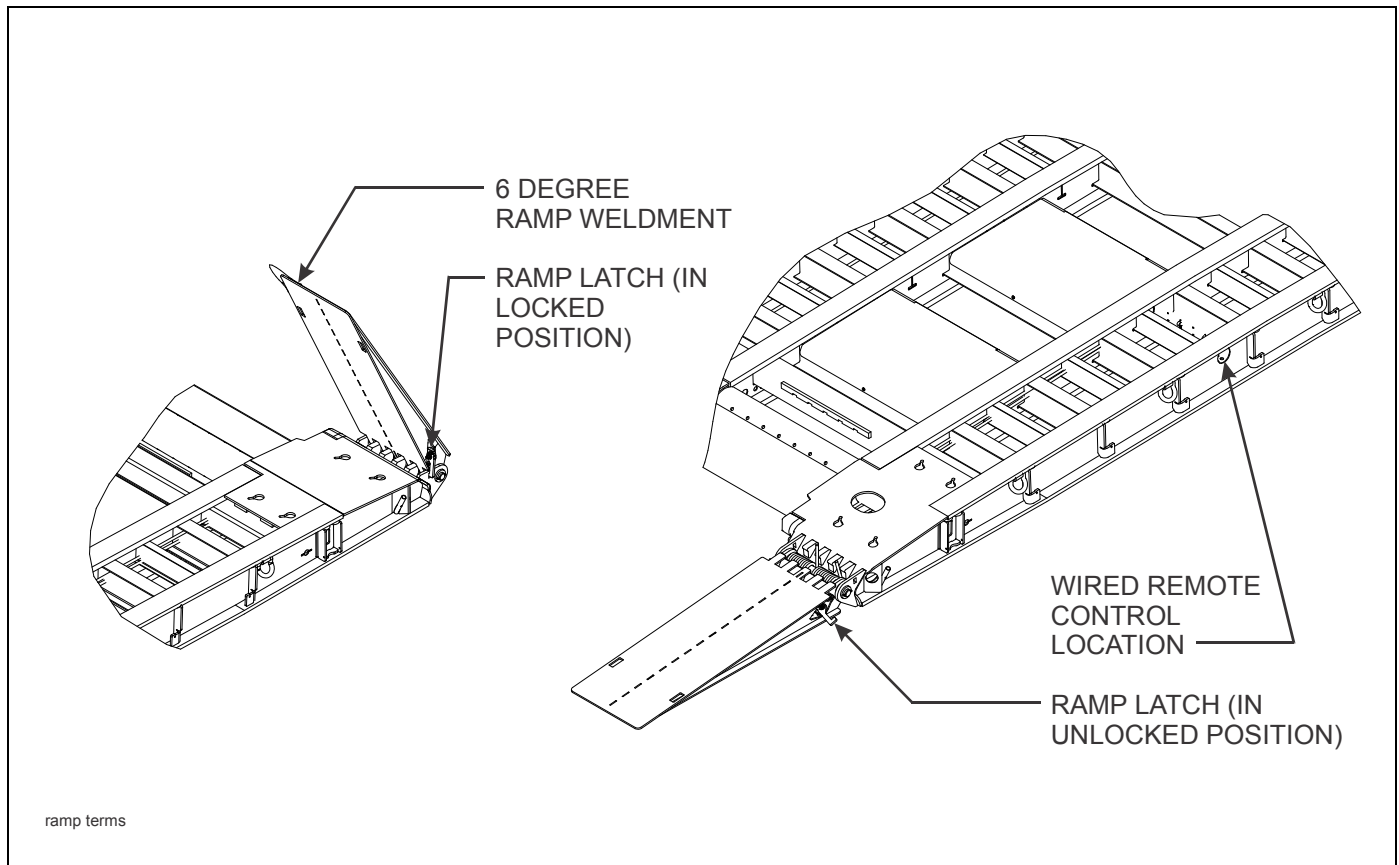

Figure 1-1: Ramp Terminology
2. Unhook safety latches holding ramps to trailer frame (**See Figure 1-1.**)